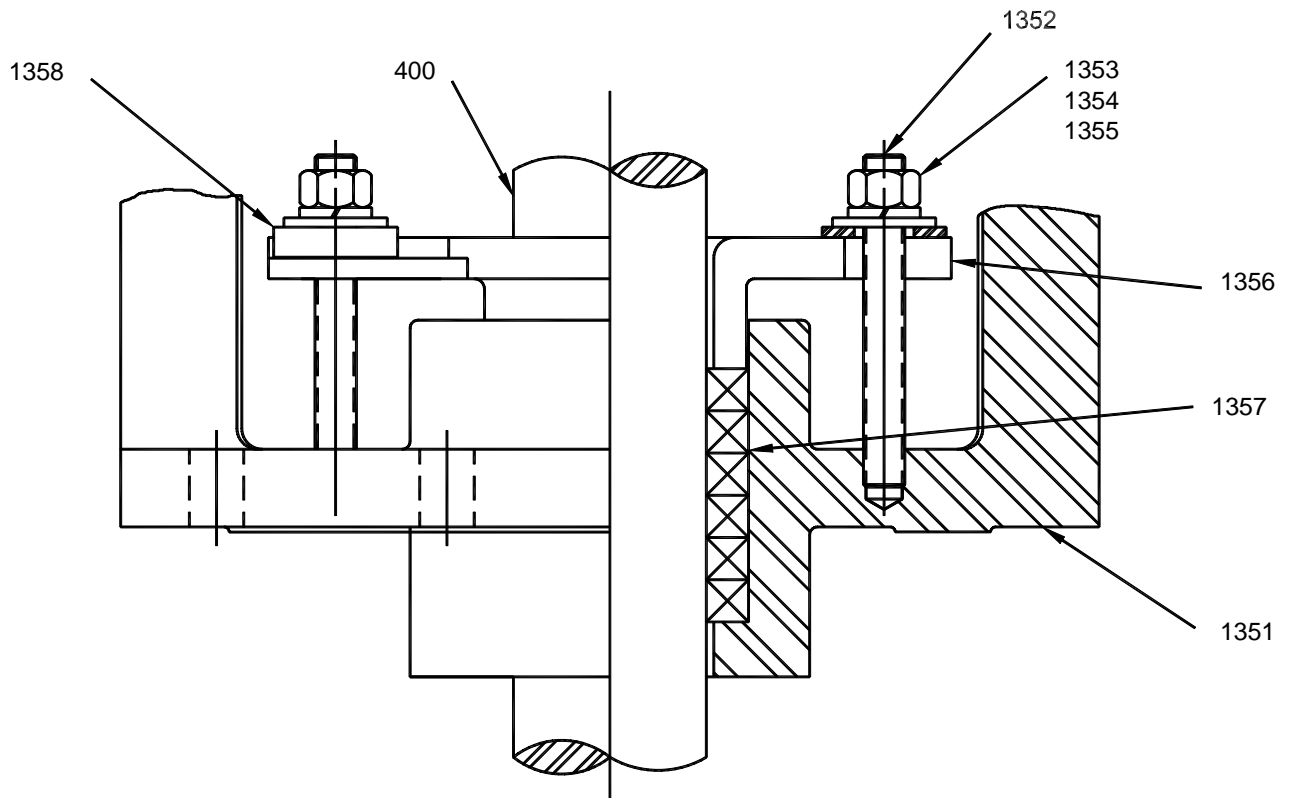

Figure 8: Stuffing Box Installation
12. *For 60DTA Units:* Install threaded studs [1352] into pedestal [1351] tapped holes (two at 180 degrees). Install packing rings [1357] into pedestal housing with packing split staggered. Seat each packing ring as it is installed. Install split packing gland [1356] over threaded studs [1352] with gland clamps [1358], flatwashers [1355], lockwashers [1354] and hex adjusting nuts [1353]. Refer to *Figure 8, below*. The split packing gland must be square with the packing housing section of the pedestal. Tighten hex adjusting nuts.